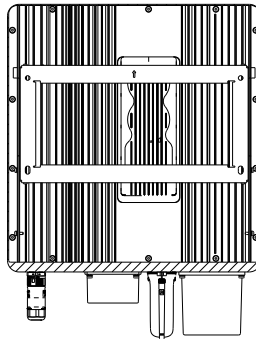

Figure 4.7 Wall Mount Bracket
2. Lift up the inverter (be careful to avoid body strain), and align the back bracket on the inverter with the convex section of the mounting bracket. Hang the inverter on the mounting bracket and make sure the inverter is secure (see Figure 4.7)